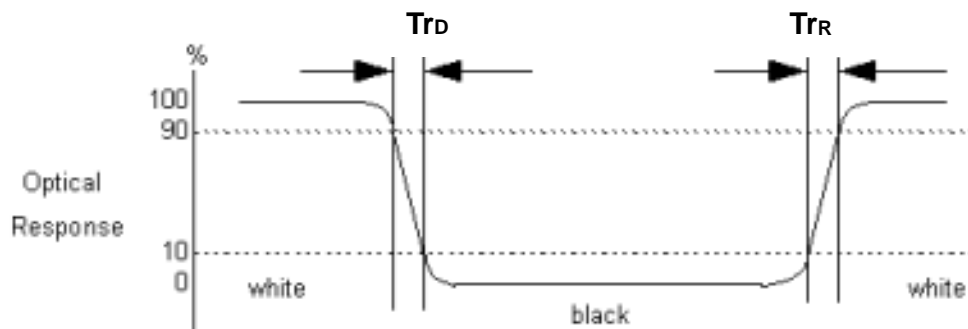

Fig.4-3 Response time
4. Response time is the time required for the display to transition from white(L255) to black(L0) (Decay Time, $Tr_D = T_f$) and from black(L0) to white(L255) (Rise Time, $Tr_R = T_r$). For additional information see FIG4-3.